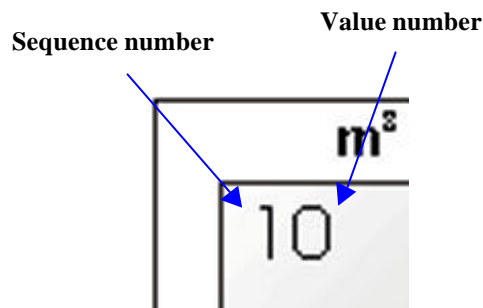

Fig 3.1b, Sequence number, value number.
1. Display sequence, in this case “10” default position. The digit “1” displays the sequence and the “0” the value, of the “10”, see also fig. 3.1b.
5. Value digit, max. seven (7) digits